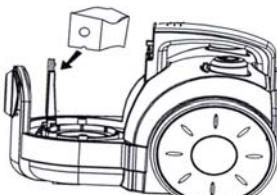

Fig. 15
- Remove the HEPA dust bag from the bag holder. (Fig. 15)